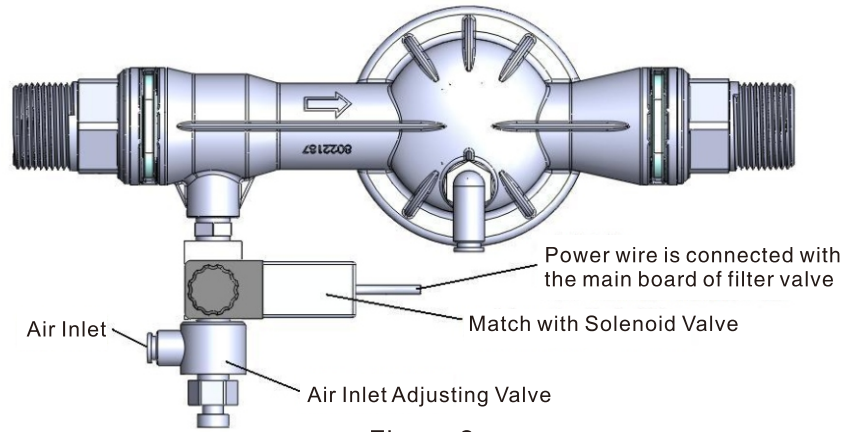

Figure 2
As Figure 2 shows, install a two passages solenoid valve on air inlet. When water tank is full of water or equipment stop working or electricity service interrupted, the filter valve program will control the solenoid valve to cut off compressed air goes into aeration tank, preventing the compressed air drain all of water in aeration tank and filter tank.
- C. Ensure the opening degree of air inlet adjusting valve shown in Figure 2. It can adjust the opening degree based on the iron and manganese removal effect, adjusting the air inlet volume. The opening degree should not be too large, avoiding affecting the inlet water